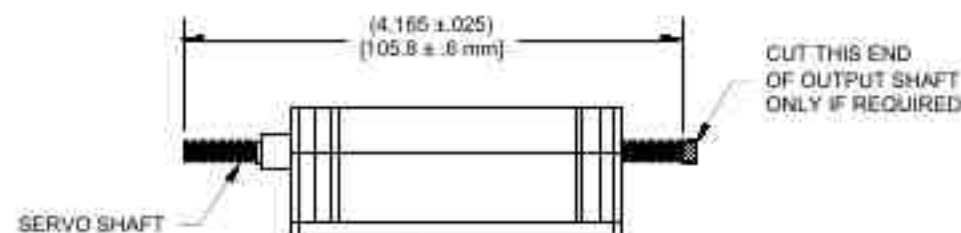

FIGURE 4: SERVO SHAFT LENGTH VERIFICATION
Step 9: Verify the length of the ES MST5-B6-7T-165 servo shaft per the dimension shown in Figure 4. If the shaft exceeds this dimension, cut off the excess from the end marked "CUT THIS END" using a hacksaw and deburr. Since nothing will be connected to the cut end "clean" threads are not required.